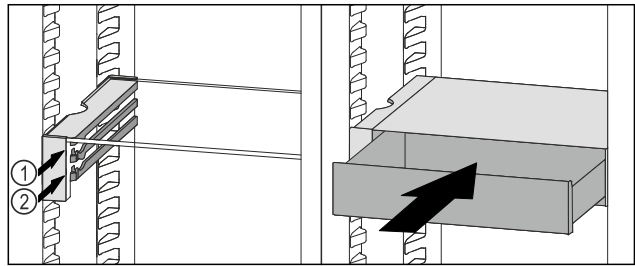

Fig. 114
- ▶ Place the VarioSafe drawer behind the stoppers on desired rib *Fig. 114 (1)* or *Fig. 114 (2)*.